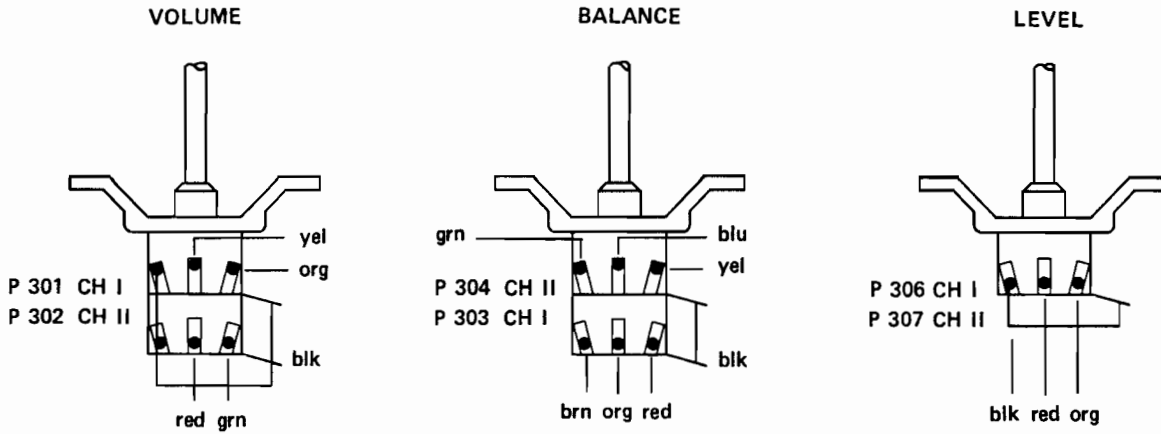

Fig. 3.11–15
- Unscrew fasteners from below ( fig. 3.11 –15)